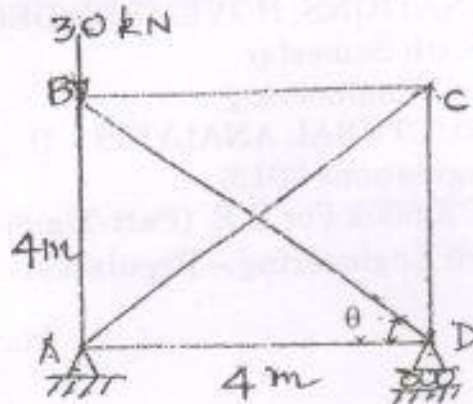

Fig. Q. 11 (a)
11. a) Analyze the pin-jointed plane frame shown in Fig. Q. 11 (a) by flexibility matrix method. The flexibility for each member is 0.02 mm/kN .